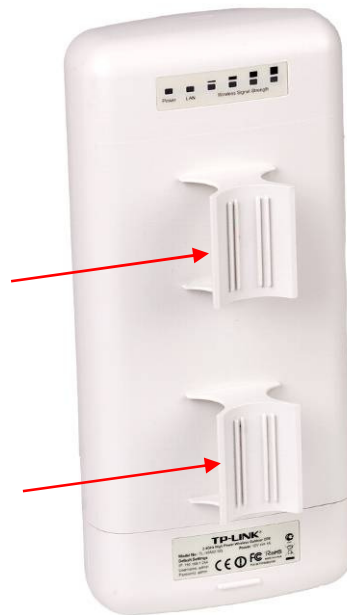

Figure 6: Apply the gasket to the feet of the access point
5. Remove the paper backing from the oil-resistant cork/rubber gaskets (351521-000004) and place the adhesive side onto the curved feet of the access point assembly, called out in Figure 6